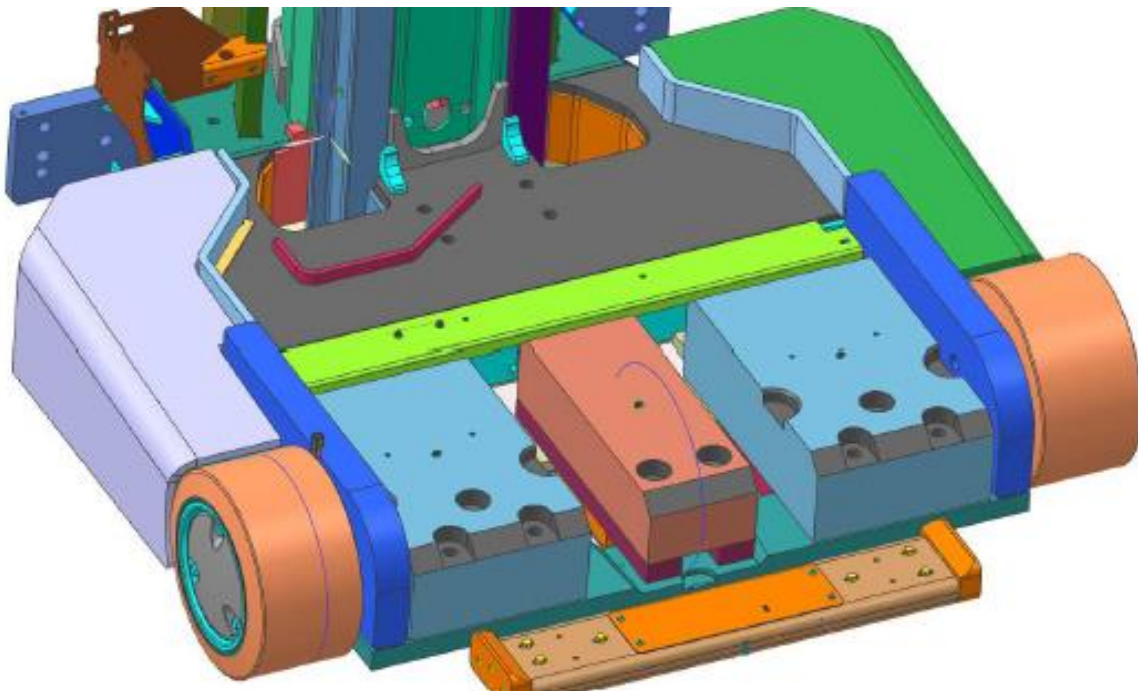

Figure 2 - Bumper Install
- Tighten the counter bolts and secure the new bumper [torque to: 359 N-m / 265 lb-ft] [Figure 2]